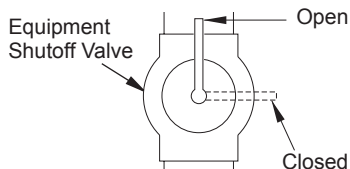

Figure 10 - Equipment Shutoff Valve
1. Close equipment shutoff valve (see Figure 10).
1. Open equipment shutoff valve (see Figure 10, page 14).
2. Close equipment shutoff valve (see Figure 10, page 14)